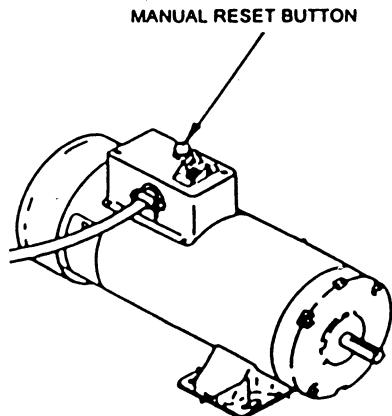

FIGURE 1
1. Remove both inspection covers on Motor. See Figure 1.